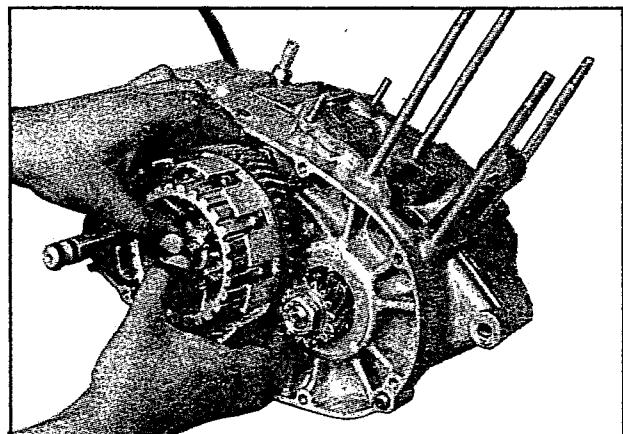

Fig 3.24
- Pull the primary driven gear off its coupling by supporting as shown in (fig 3.24)